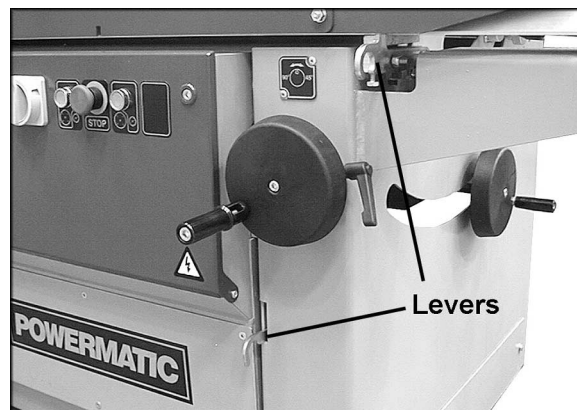

Figure 4
3. The support arm and sliding table have both been locked for transportation. Release the support arm by lifting the lower lever (Figure 4). Release the sliding table by pushing in the upper lever (Figure 4).